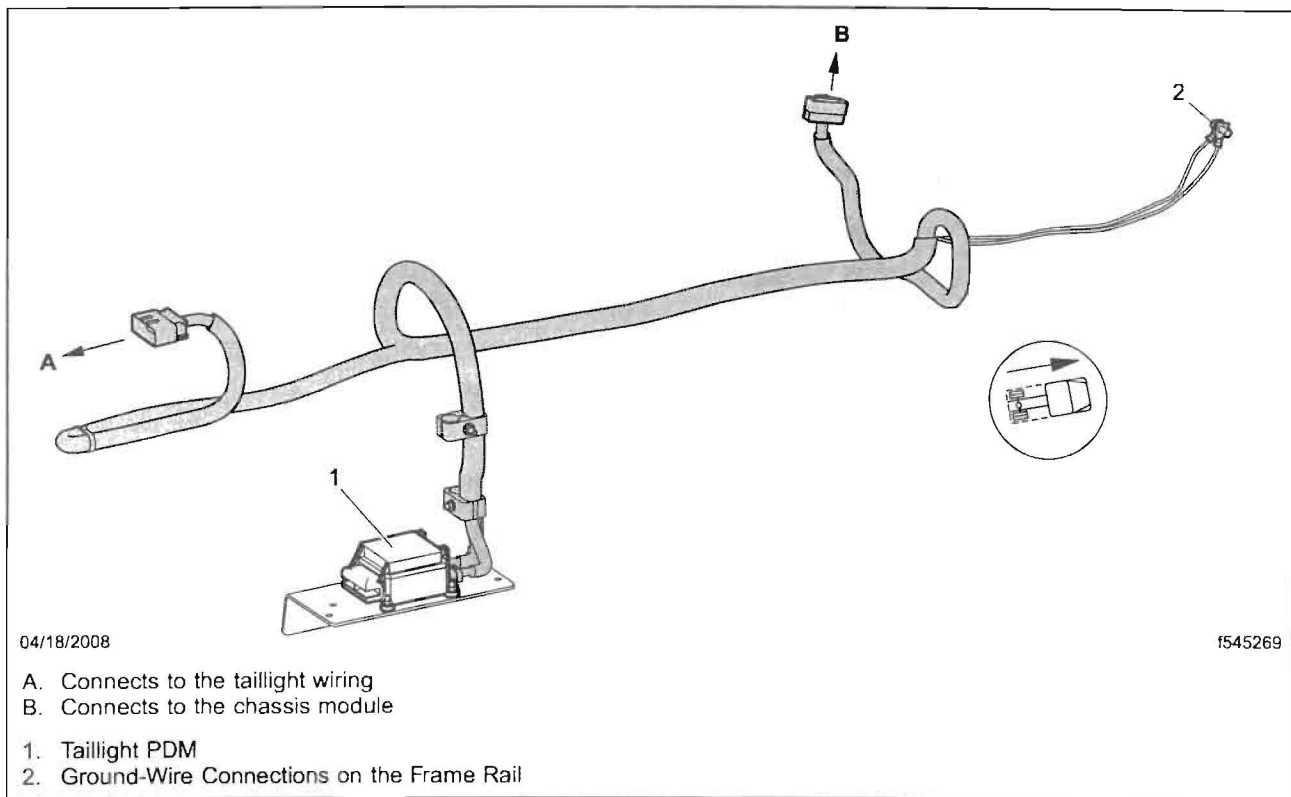

Fig. 4, Taillight Harnesses to be Removed
11. Disconnect the PDM taillight harnesses from the vehicle as follows. See **Fig. 4**